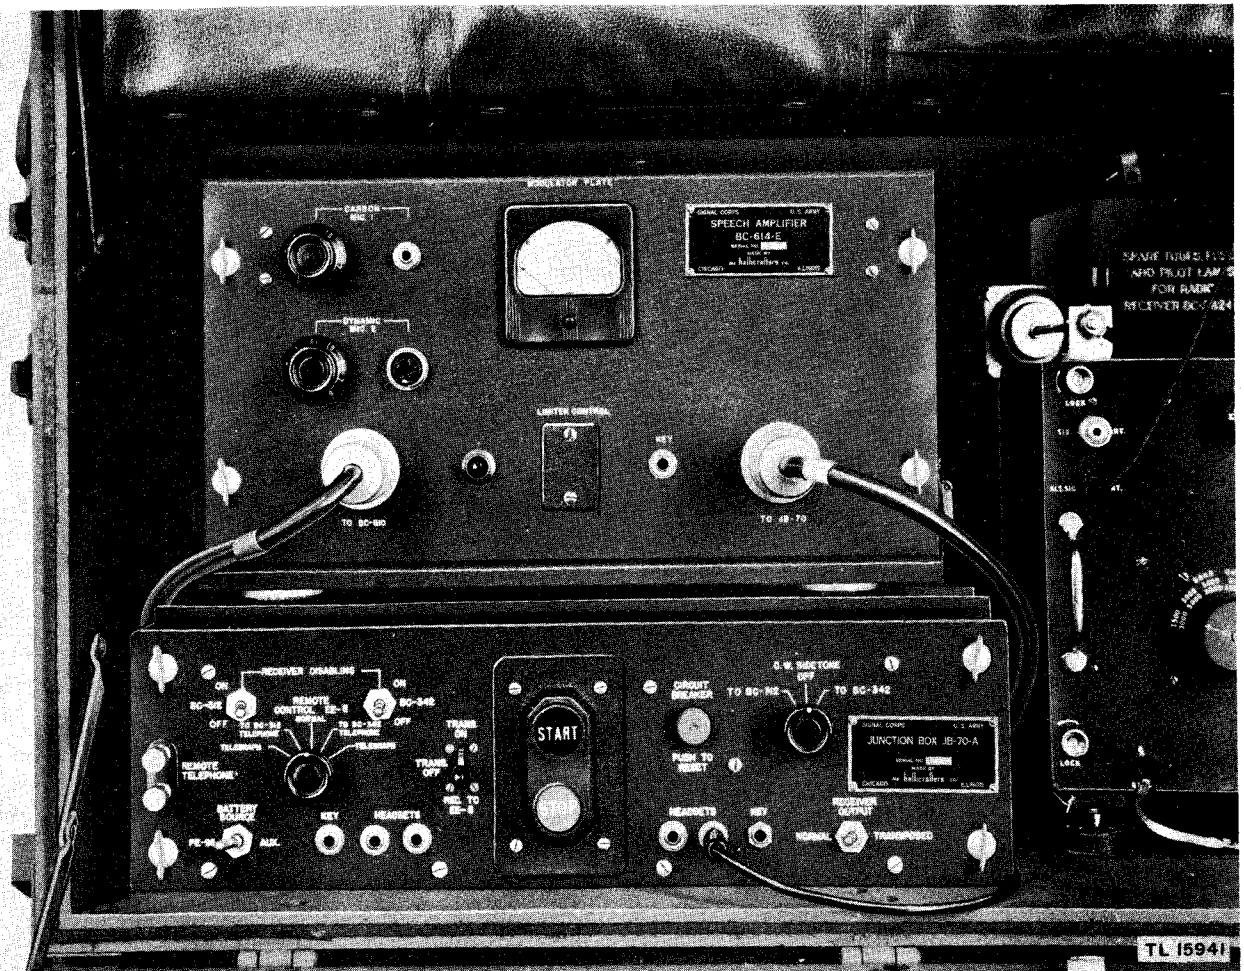

Figure 8. Speech Amplifier BC-614-E and Junction Box JB-70-A in Chest CH-120-A — front view.
## 8. Speech Amplifier BC-614-E (fig. 8)
b. Junction Box JB-70-A serves as a control center for the station. The front panel controls (fig. 8) provide for:
- (1) Starting or stopping Power Unit PE-95-( ).
- (2) Resetting the circuit breaker in the power mains.
- (3) Selection of 12-volt battery source.
- (4) Control of transmission and reception.
- (5) Remote control operation.
- (6) Choice of manual or automatic receiver disabling.
- (7) Choice of receiver output to headset.
- (8) A sidetone signal to monitor transmission during c-w operation.